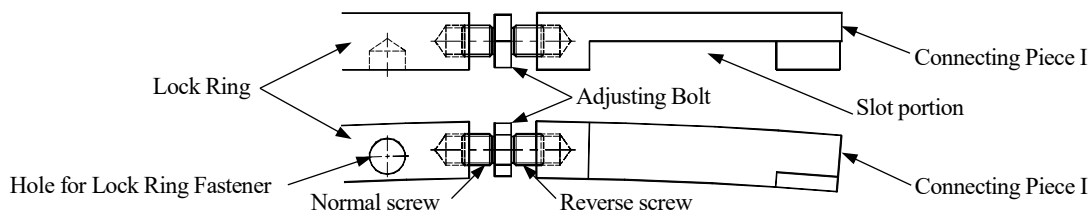

Figure-5 Connecting Piece I and Adjusting Bolt
(1) Screw the Adjusting Bolt into the tapped holes located at the ends of the Lock Ring and the Connecting Piece I. At this point, screw in only one or two threads. (See Figure-5.) Ensure the Lock Ring hole for the Lock Ring Fastener and the Connecting Piece slot are aligned in the same direction.